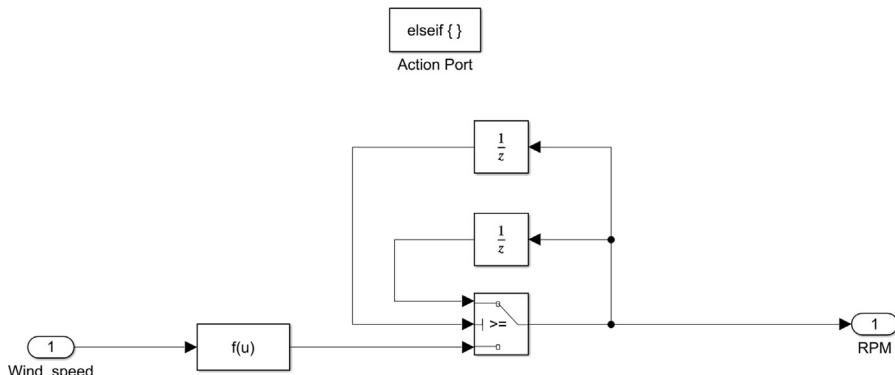

Figure 10.24 Inside the second If action subsystem block.
- Connect these blocks as shown in Fig. 10.24.